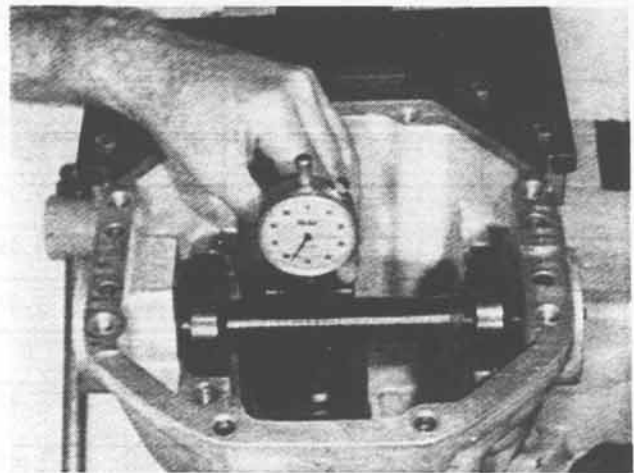

Figure 55
Place the arbor discs and arbor into the cross bore of the carrier. Place the pinion height block on the button end of the pinion. Set dial indicator of scooter gage at zero (0). Slide the scooter gage towards the arbor. As discussed in Figure 55, the indicator will show the greatest clockwise reading when it is at the top center of arbor. This reading indicates the position of the pinion.